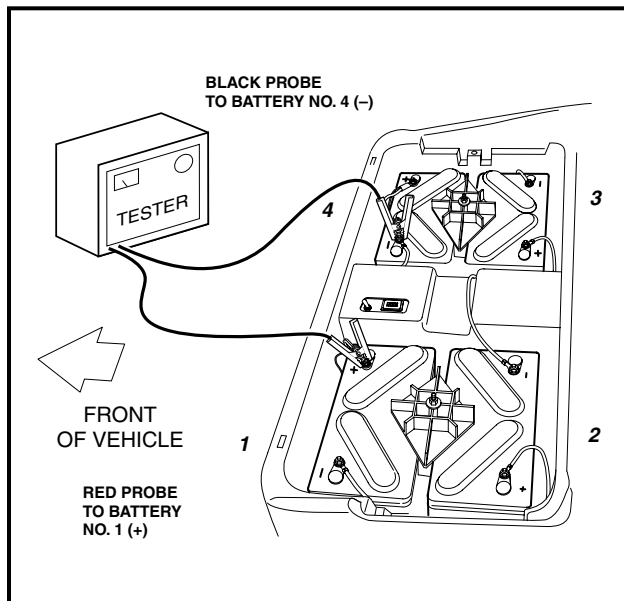

Figure 13-9 Battery Discharge Test
2. Connect the tester leads to the positive (+) post of battery no.1 and negative (-) post of battery no. 4 (Figure 13-9, Page 13-11).